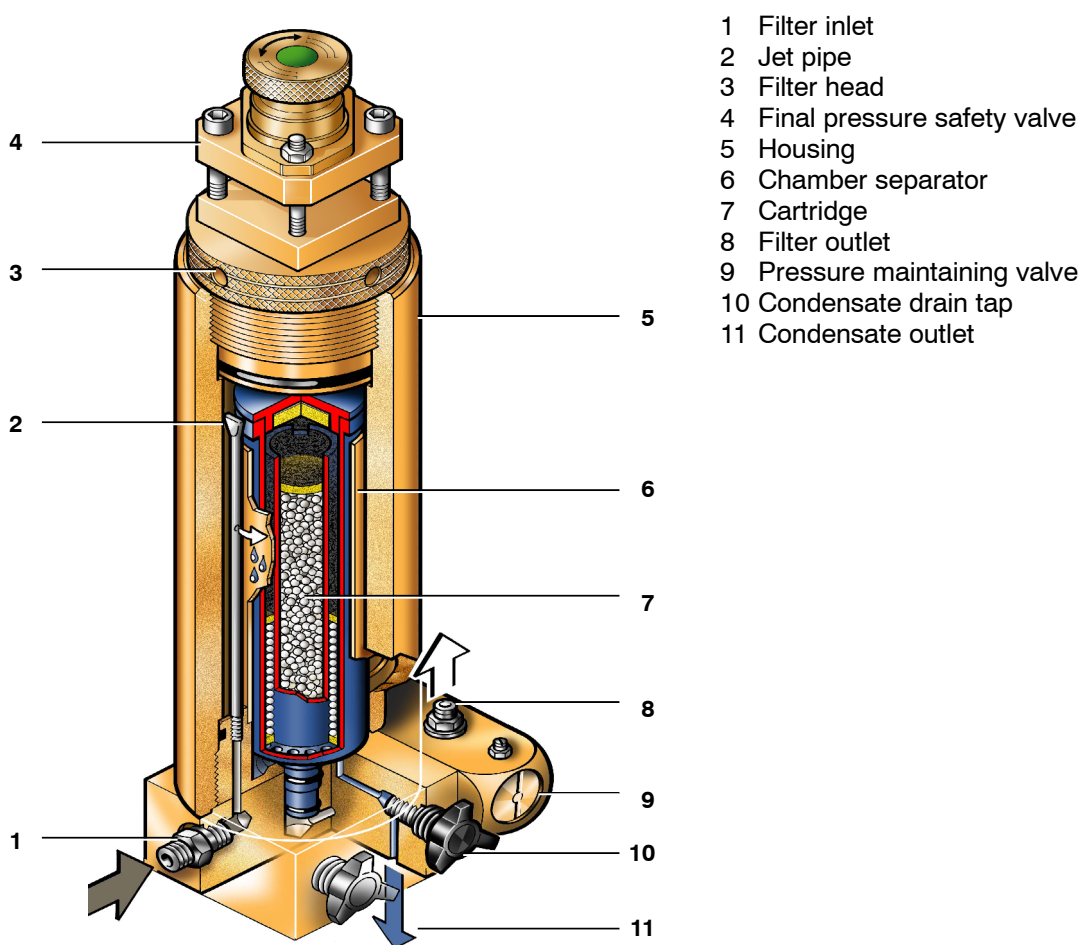

Fig. 26 Filter system P21
The air leaving the final stage is cooled in the after-cooler to approx. 10 – 15 °C (18 – 27 °F) above ambient temperature and then enters filter system **P21** with **TRIPLEX** longlife cartridge (Fig. 26).
Drain condensate from separator and cartridge chamber regularly by slowly opening drain taps (10, Fig. 26)
- Remove filter head (3, Fig. 26).